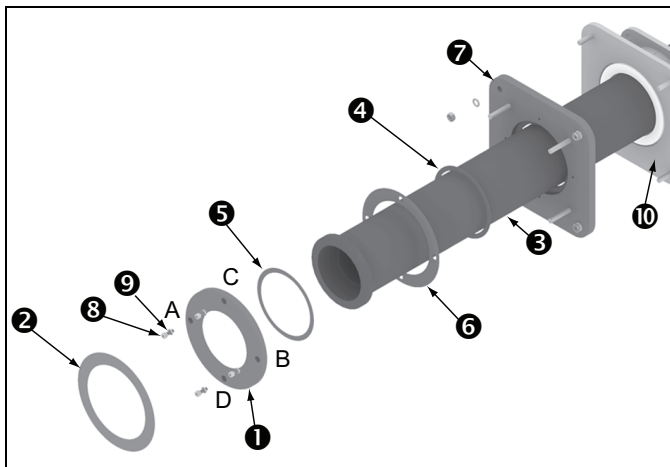

Figure 3.11
The horizontal ceramic tube should be mounted as follows, please refer to Figure 3.11 for all Item numbers:
- c. Using a hand wrench snug all bolts in the following order - A,B,C,D (see Figure 3.11)